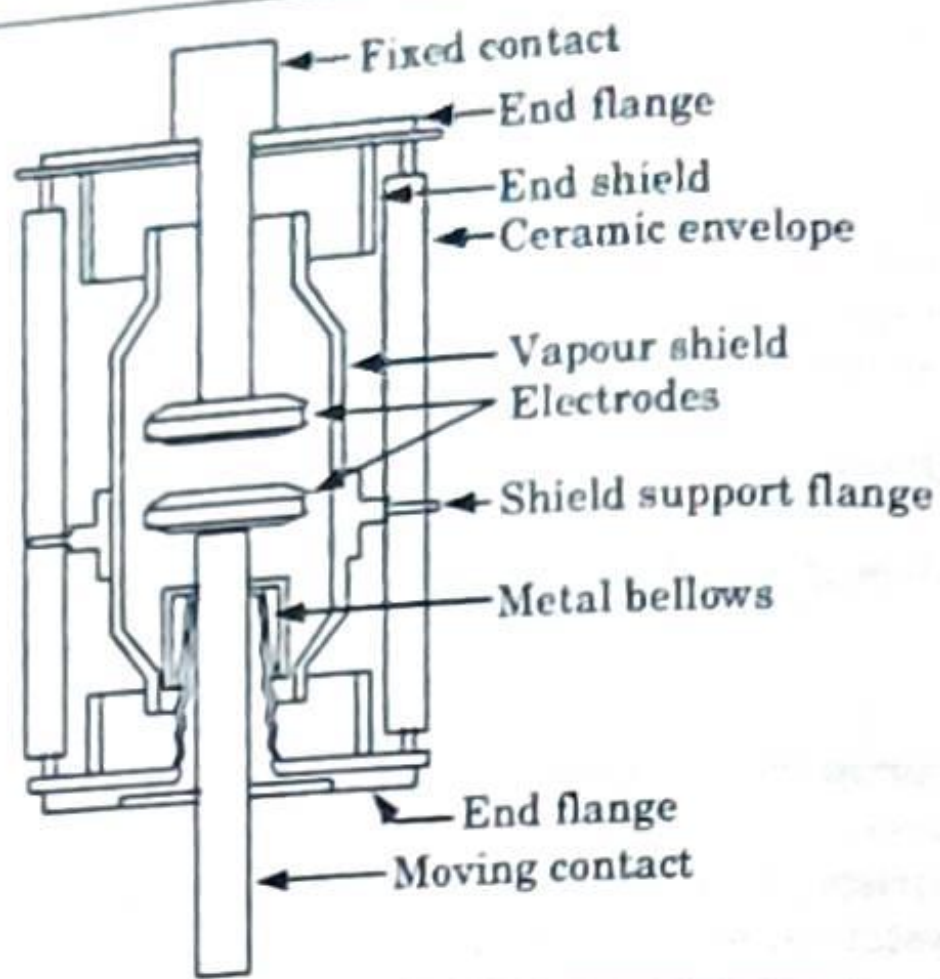

Fig. 4.28.1. Vacuum circuit breaker.
1. Fig. 4.28.1 shows the diagram of vacuum circuit breaker. Its enclosure is made up of glass.